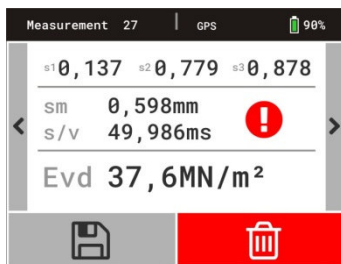

Figure 15
**If one settlement value deviates by 50% or more from the average settlement  $s_m$  an exclamation mark appears on the screen (Figure 15). Probably it is a mismeasurement. This test series should be rejected and measurement repeated**